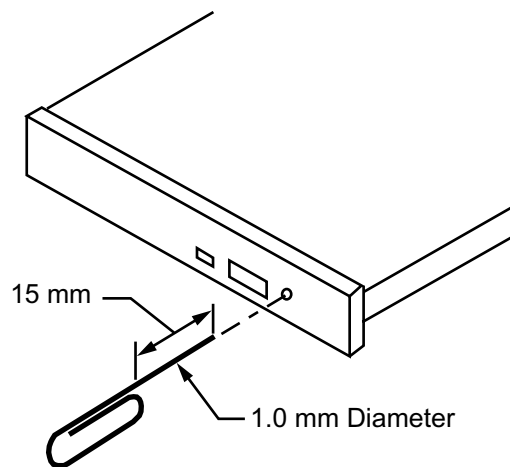

Figure 3-6. Manually Ejecting the CD-RW Drive Tray
Step 1. To release the drive tray, insert a 1.0 mm diameter paper clip into the manual release hole as shown in Figure 3-6.